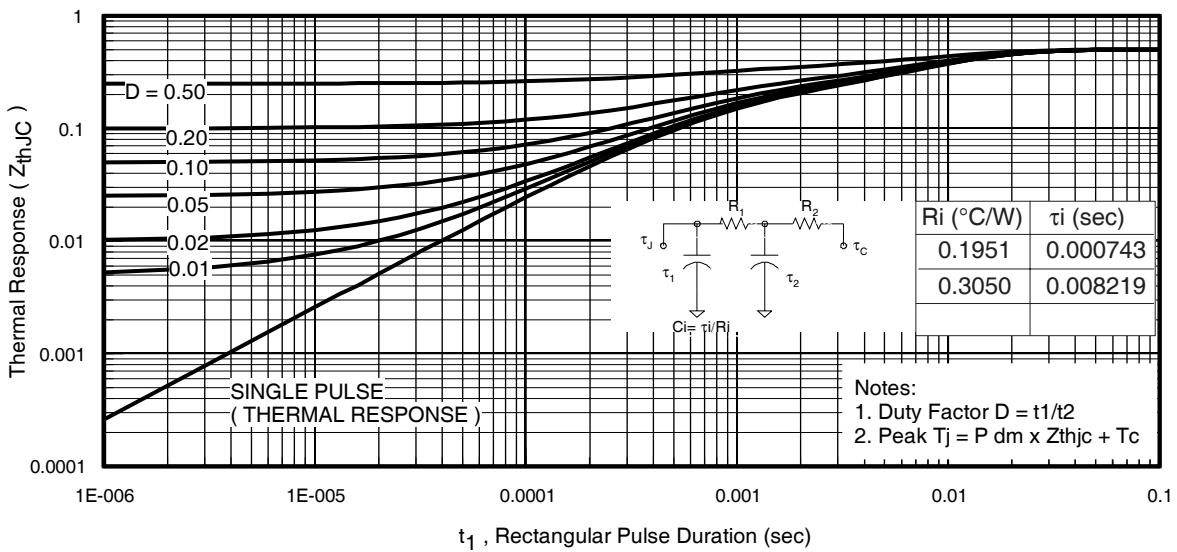
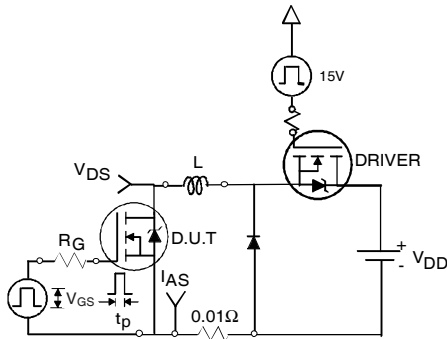

Fig 11. Maximum Effective Transient Thermal Impedance, Junction-to-Case
Fig 12a. Unclamped Inductive Test Circuit
- ① Repetitive rating; pulse width limited by max. junction temperature. (See fig. 11).
- ② Limited by T_{Jmax} , starting $T_J = 25^\circ\text{C}$, $L = 0.049\text{mH}$, $R_G = 25\Omega$, $I_{AS} = 160A$, $V_{GS} = 10V$. Part not recommended for use above this value.
- ③ Pulse width $\leq 1.0\text{ms}$; duty cycle $\leq 2\%$.
- ④ $C_{oss\text{ eff.}}$ is a fixed capacitance that gives the same charging time as C_{oss} while V_{DS} is rising from 0 to 80% V_{DSS} .
- ⑤ Limited by T_{Jmax} , see Fig.12a, 12b, 15, 16 for typical repetitive avalanche performance.
- ⑥ This value determined from sample failure population. 100% tested to this value in production.
- ⑦ This is applied to D²Pak, when mounted on 1" square PCB (FR-4 or G-10 Material). For recommended footprint and soldering techniques refer to application note #AN-994.
- ⑧ R_θ is measured at T_J of approximately 90°C .
3. Equation below based on circuit and waveforms shown in Figures 12a, 12b.
$Z_{thJC}(D, t_{av})$ = Transient thermal resistance, see figure 11)